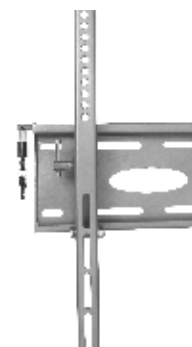

Figure 6 – Install safety bar and padlock and adjust tilt angle using knobs.
2. Insert safety bar and install padlock (not supplied) to prevent theft. See Figure 6.
3. Use tilt adjustment knobs to adjust angle of TV. See Figure 6.